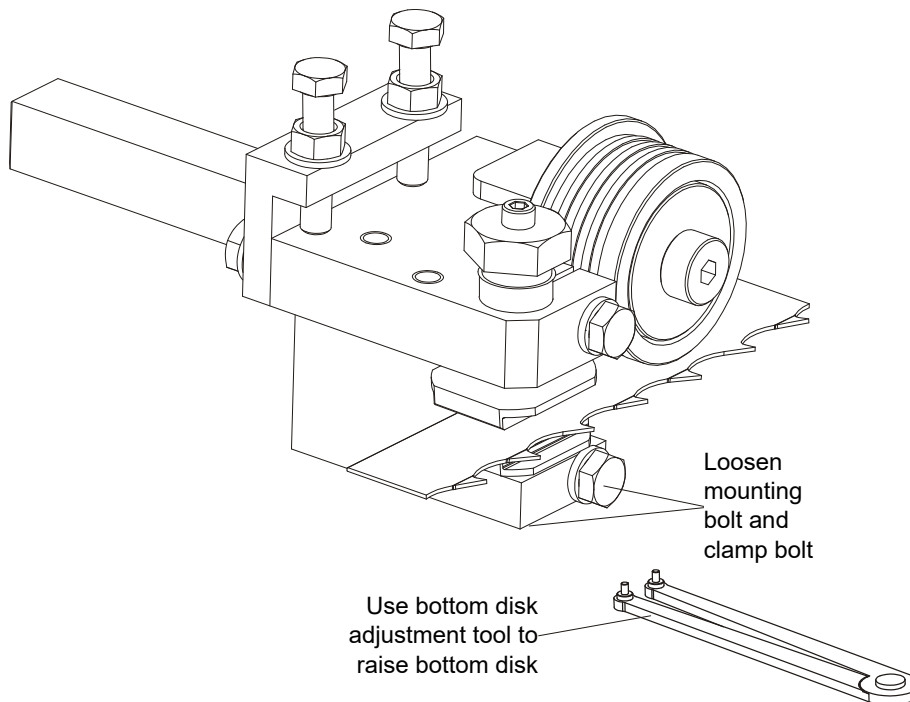

FIG. 3-2
**See Figure 3-2.** To adjust the disks up, loosen the bottom guide disk mounting bolt and clamp bolt. Use the provided adjustment tool. to raise bottom disk Retighten the bottom disk mounting bolt and clamp bolt. See Section: Blade Disk Adjustment